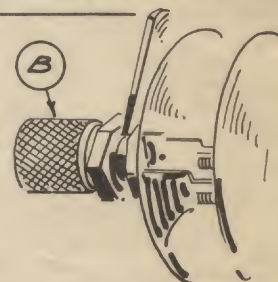

FIG. 4
405 THE REAR CARRYING SHAFT IS SUPPLIED WITH AN ADJUSTING KNOB (B) FOR ADJUSTING THE END PLAY - FIG. 4.